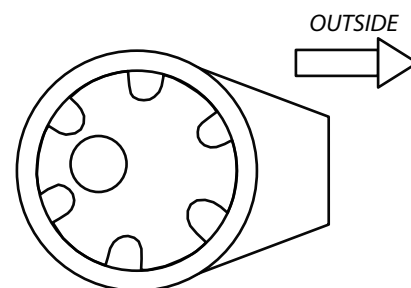

Figure 1 - Maximum negative camber setting
*Note: If the required adjustment is known, it is best to adjust the camber prior to the re-fitment. (For maximum camber see fig. 1)*